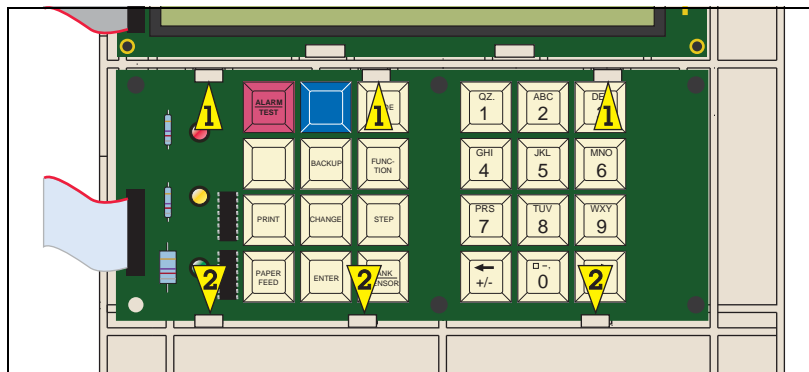

Figure 5. Installing Keyboard In Replacement Cover
8. Get the new replacement display and cover assembly from the kit and notice the keyboard mounting position is the same as in the cover being replaced. Slide the keyboard's top edge up and into the three notched sections (1) in the new cover then rotate the bottom edge down until the three snaps (item 2) click over the board as shown in Figure 5.